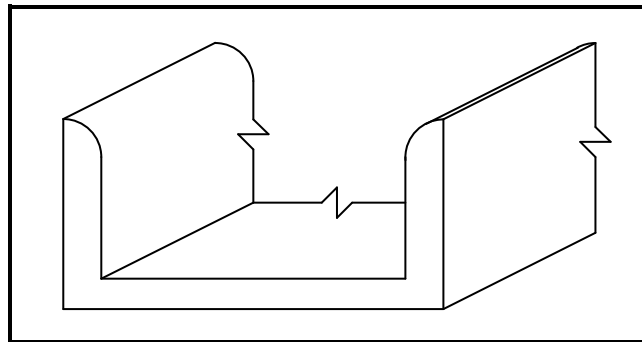

FIGURE 1.7
1.7 FIGURE 1.7 below shows a steel profile.